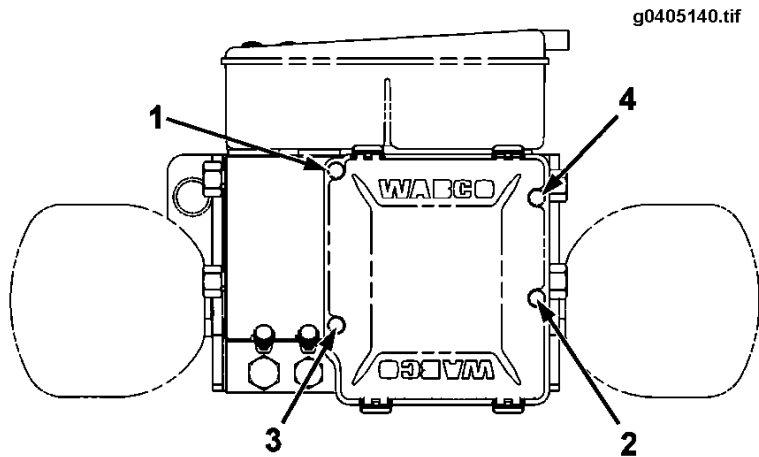

Figure 40 Loosening/Tightening Pattern for ECU Mounting Screws
5. Using a 4 mm Allen wrench, remove the 4 screws that attach the ECU module to the HCU in the sequence shown in FIGURE 40.
3. Secure the ECU module using the four new 4 mm Allen-head screws. Using the tightening pattern shown in FIGURE 40, torque the screws to 1.5 Nm (14 Lbf-in). Verify that the metal sleeves of the ECU module housing rest flat on the HCU body.
4. Using the tightening pattern shown in FIGURE 40, increase the torque on the mounting screws to 2.5 to 3.5 Nm (21 to 30 Lbf-in).